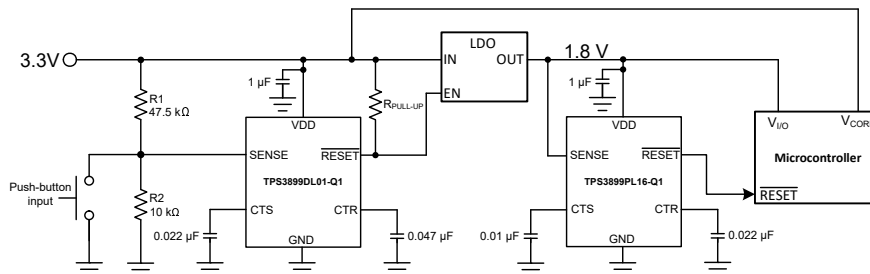

Figure 9-1. TPS3899-Q1 Voltage Rail Monitor and Power-Up Sequencer Design Block Diagram
A typical application for the TPS3899-Q1 is voltage rail monitoring and power-up sequencing as shown in Figure 9-1. The TPS3899-Q1 can be used to monitor any rail above 0.8 V. In this design application, two TPS3899-Q1 devices monitor two separate voltage rails and sequences the rails upon power-up. The TPS3899DL01-Q1 is used to monitor the 3.3 V main power rail and the TPS3899PL16-Q1 is used to monitor the 1.8 V rail provided by the LDO for other system peripherals. The  $\overline{\text{RESET}}$  output of the TPS3899DL01-Q1 is connected to the enable (EN) input of the LDO with an external pull-up resistor  $R_{\text{PULL-UP}}$  to the 3.3 V power rail. The  $\overline{\text{RESET}}$  output of the TPS3899PL16-Q1 is connected to the  $\overline{\text{RESET}}$  input of the microcontroller. A reset event is initiated on either voltage supervisor when the VDD voltage is less than  $V_{\text{IT}}$ , falling threshold voltage. For a system reset event, a push-button input is placed at the SENSE pin of the TPS3899DL01-Q1.